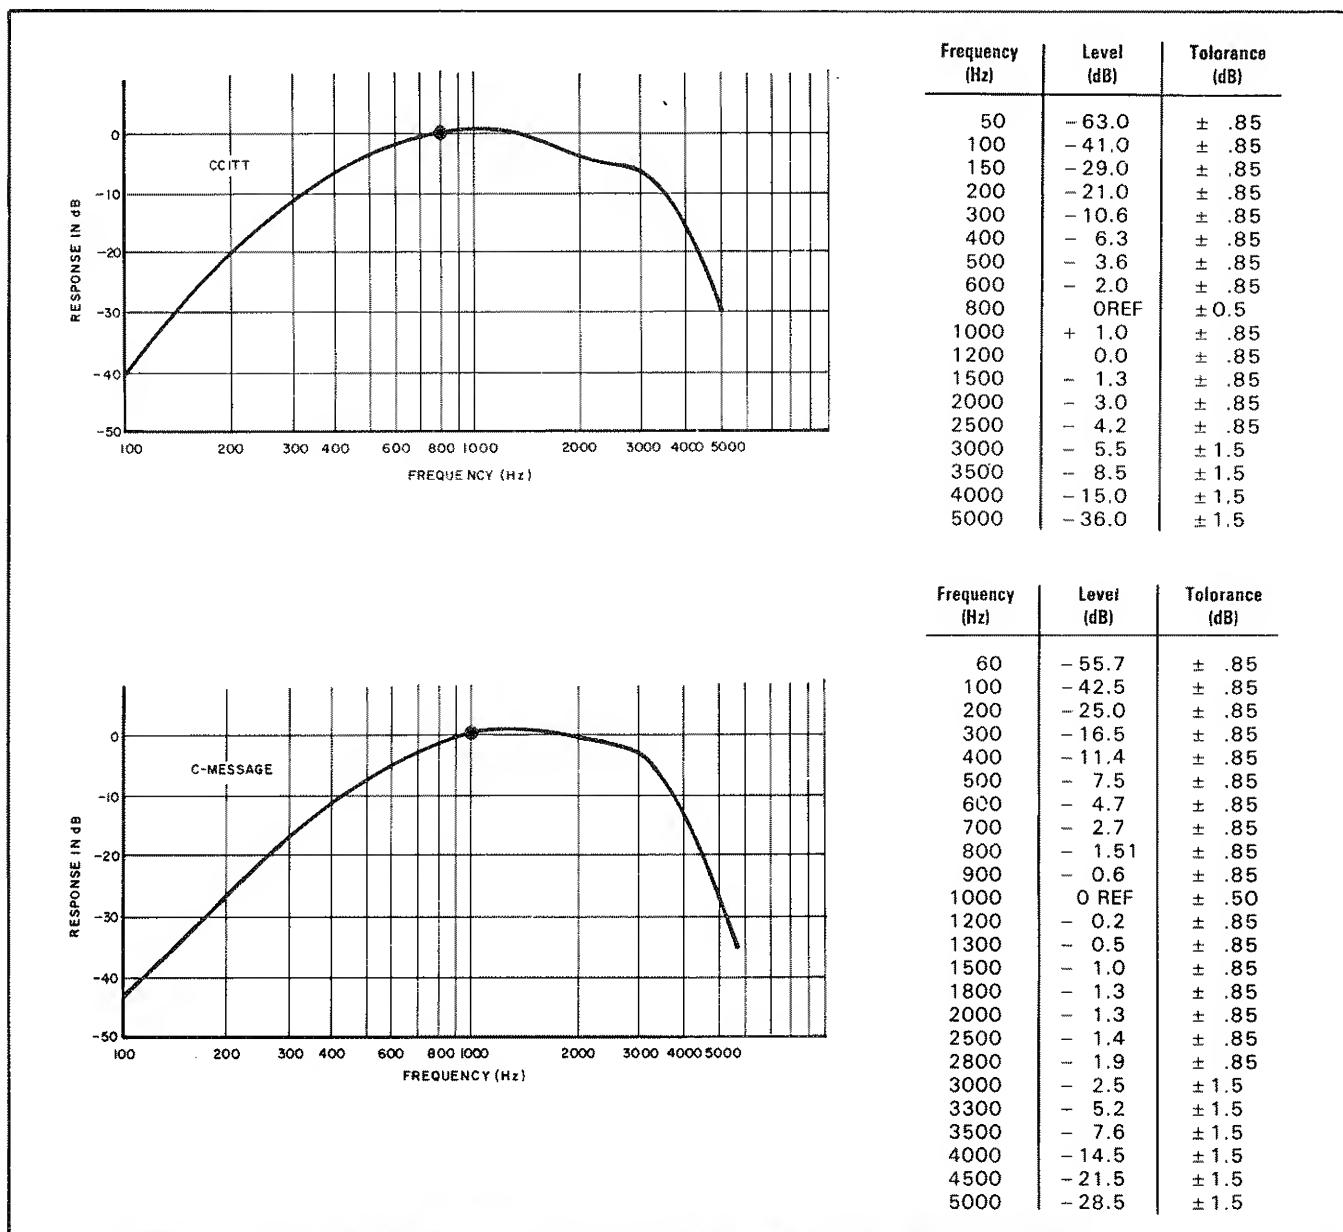

Figure 3-8-2. Weighting Curves Used For WTD Bandwidth Selection.
**3-8-23. WTD (Weighted).** The Weighted Bandwidth is used exclusively for noise measurements on telephone message channels. When the WTD Bandwidth is selected, either a psophometric (-hp- 3586A/CCITT version) or a C-Message (-hp- 3586B/Bell version) filter is placed in series with the 3100Hz Bandwidth filter. Both plots of these weighting curves are illustrated in Figure 3-8-2. Measurements of weighted noise signals correspond closely to subjective evaluations of the unweighted noise level.